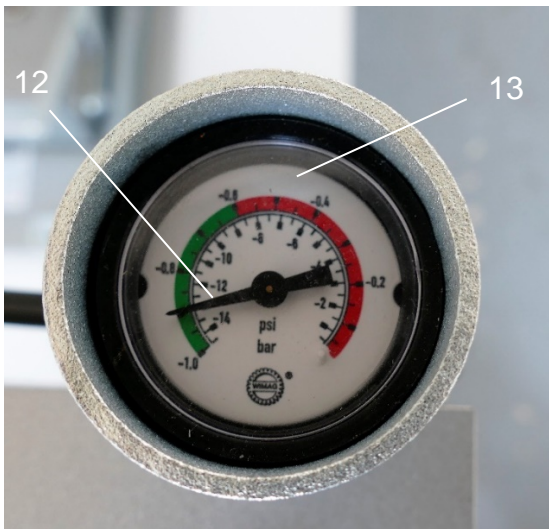

Fig. 6
- If the indicator (12) of the pressure gauge (13) is within the green zone (greater than -0.65 bar), the plate can be lifted and transported (Fig. 6).